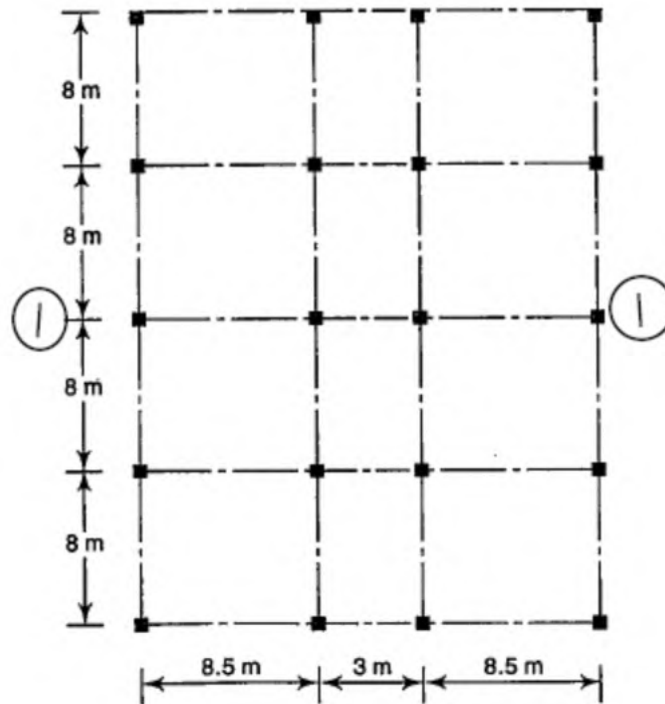

Fig.6.
12. a) Explain how the various building irregularities affect the behaviour of structures to earthquake excitation. (6)
- b) The plan of a five storey building is shown in Fig 6. Dead load including self weight of slabs, finishes, partitions etc can be assumed as 5 kN/m^2 and live load as 4 kN/m^2 on each